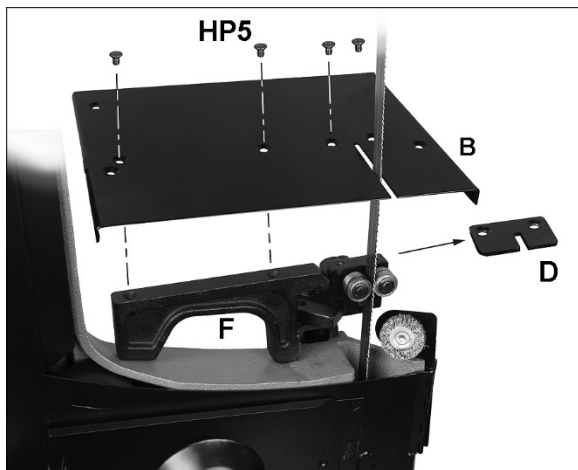

Figure 8-4: installing cutting plate
6. Place smaller support (F, Figure 8-4) onto groove of blade guide, and adjust height of blade guide until support sits level on bow frame, as shown **(712D only)**.
7. Remove deflector plate (D).
8. Install table plate (B) and secure with four screws (for 712D) or two screws (for 712).